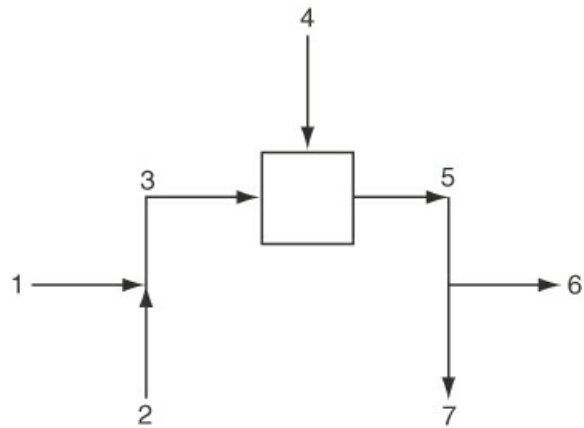
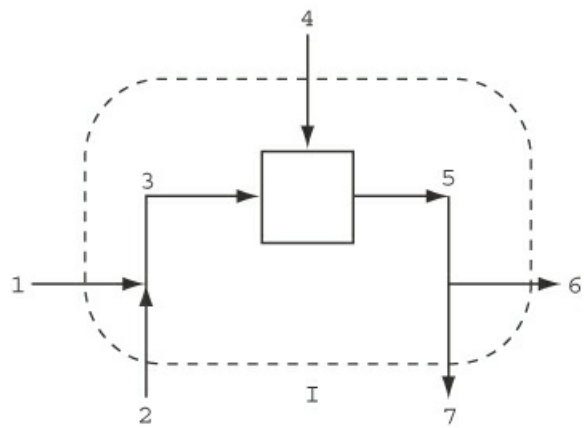
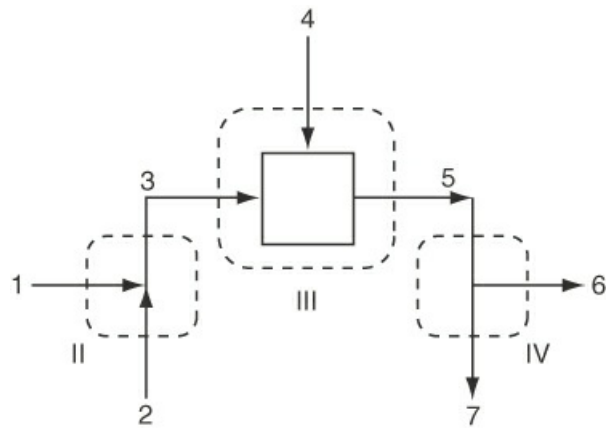

Figure 5.3a Serial mixing and splitting in a process without reaction
Figure 5.3b Dashed line I designates the boundary for an overall total material balance made on the system in Figure 5.3a
Figure 5.3c Dashed lines II, III, and IV denote the boundaries for material balances around each of the individual units constituting the overall process
Let's first examine a multiunit system composed of a **sequential combination of units**. Figure 5.3a illustrates a sequential combination of mixing and splitting stages. Streams 1 and 2 combine to form the first mixing point, streams 3 and 4 also combine in the box for the second mixing point, and stream 5 splits (at presumably a pipe junction) into streams 6 and 7. Note that the first mixing point occurs at the combination of streams 1 and 2 (presumably a junction of pipes), and the second mixing occurs where streams 3 and 4 enter the box (presumably representing a process such as a mixing tank). You will encounter both types of mixing in the problems and examples in this book and in flowsheets in professional practice.
Examine Figure 5.3a. Which streams must have the same composition? Do streams 5, 6, and 7 have the same composition? Yes, because streams 6 and 7 flow from a splitter. Do streams 3, 4, and 5 have the same composition? It's quite unlikely. Stream 5 is some type of average of the compositions of streams 3 and 4 (in the absence of reaction). What is the composition inside the system (the box)? It will have the same composition as stream 5 only if streams 3 and 4 are really **well mixed** in the subsystem represented by the box.
How many material balances can you formulate for the system and subsystems shown in Figure 5.3a? First, let's examine how many total material balances you can write. You can write an **overall total material balance**, namely, a total balance on the system that includes all of the three subsystems within the overall system boundary, which is denoted by the dashed line labeled I in Figure 5.3b.
In addition, you can make a total balance on each of the three subsystems that make up the overall system, as denoted by the boundaries indicated by the dashed lines II, III, and IV in Figure 5.3c. Finally, you can make a balance about each of the combinations of two subsystems, as indicated by the dashed-line boundaries V and VI in Figures 5.3d and 5.3e, respectively.
You can conclude for the system shown in Figure 5.3a that you can make total material balances on six different combinations of subsystems.
The important question is: How many independent material balance equations can be written for the process illustrated in Figure 5.3a if more than one component exists? In Section 5.1, we stated that you can write one independent equation for each component in each subsystem except for the splitter, for which you can write only one independent material balance equation. For Figure 5.3a, assume that three components are present in each of the separate subsystems shown in Figure 5.3c. You can write three independent material balance equations about the first pipe junction, three for the box, plus one independent equation for the splitter, for a total of seven (7) independent material balance equations. How many material balances are possible if you include *all of the redundant equations*, total as well as component balances?
Figure 5.3b: 3 components plus 1 total
Figure 5.3c: $3 \times 3 = 9$ components plus 3 total
Be careful to **select an independent set of equations**. As an example of what not to do, do not select three component balances for (a) the first pipe junction shown in Figure 5.3c, (b) the box, and (c) one balance for the splitter plus an overall total balance (Figure 5.3b). This set of equations would not be independent because, as you know, the overall balance is just the sum of the respective species balances for the individual unit. However, the total balance could be substituted for one of the component balances.